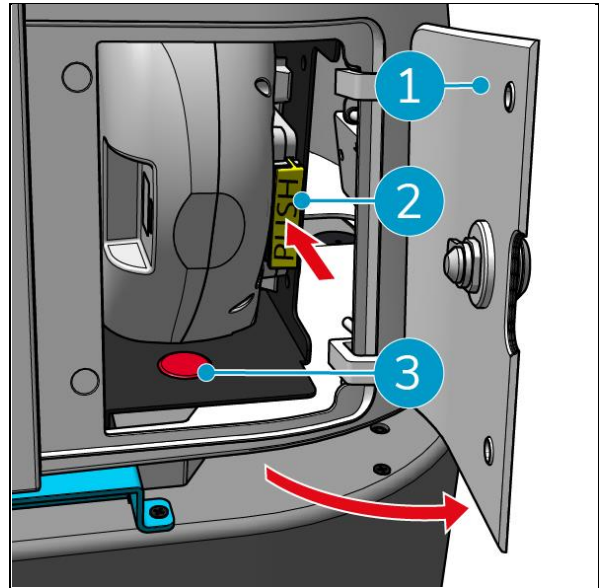
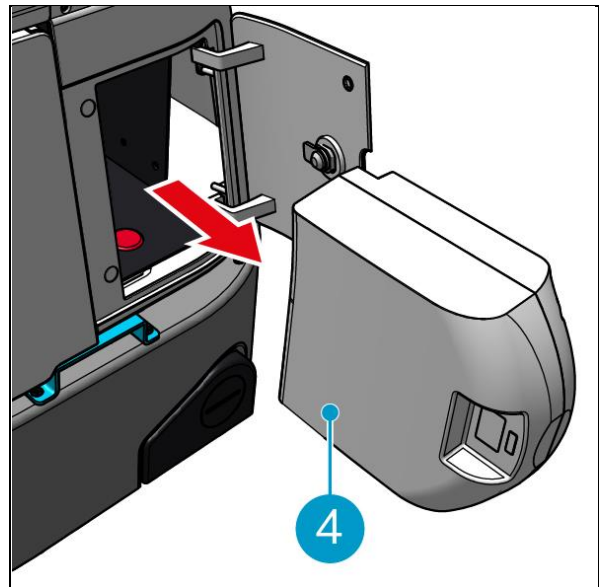

Figure 28
Figure 29
1. Unlock and open the battery compartment lid (Figure 28, pos. 1) using the supplied key.
2. Power-off the co-botic™ 45 by pressing the on/off button (Figure 28, pos. 3).
3. While pressing the yellow slide lock (Figure 28, pos. 2), pull the battery out of the compartment (Figure 29, pos. 4).